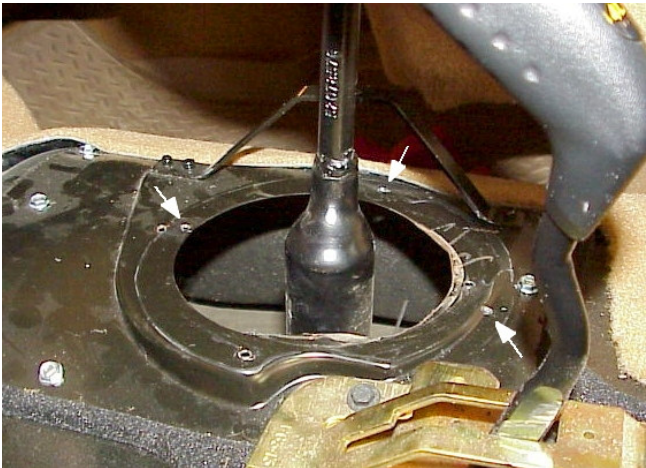

Figure 23
- 8)  Rotate the boot clockwise to match the increased floor pan opening. Mark and drill the three new mounting holes. See figure 23.